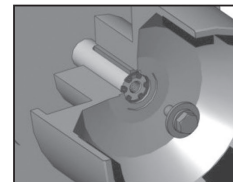

Figure 6
**Metric Motors:** Secure the drive to the motor shaft using bolt, lock washer and flat washer (items 21, 22, 23). Thread the bolt into the end of the motor shaft (while holding the outer drive to prevent it from turning). See figure 6.